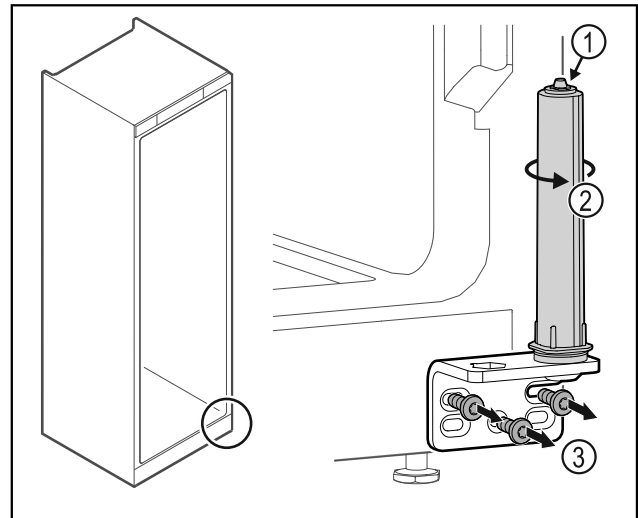

Fig. 43
- ▶ Do not disassemble the door closing system Fig. 43 (1).
- ▶ Turn the closing system Fig. 43 (2) until it clicks.
- ▶ Unscrew the hinge Fig. 43 (3).